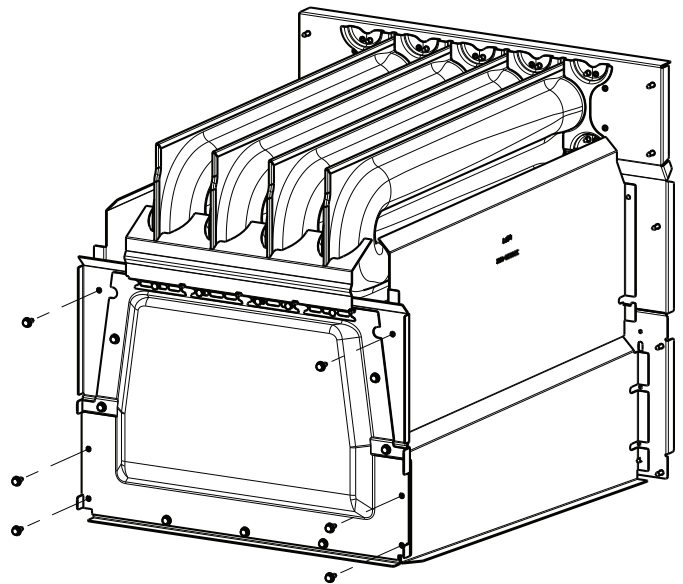

Fig. 5 – Coupling Box/Sidewall Baffle Removal / Installation - Rear View A11414
5. Once the Coupling Box cover is sufficiently loosened, remove the coupling box cover from the rear of the Heat Exchanger Assembly, see Fig. 5.
2. Align the Coupling Box Cover over the rear of the Heat Exchanger Assembly, see Fig. 6 and Fig. 5.
Insert the slot on the sidewall baffle over the tab on the primary cell panel, see Fig. 5.